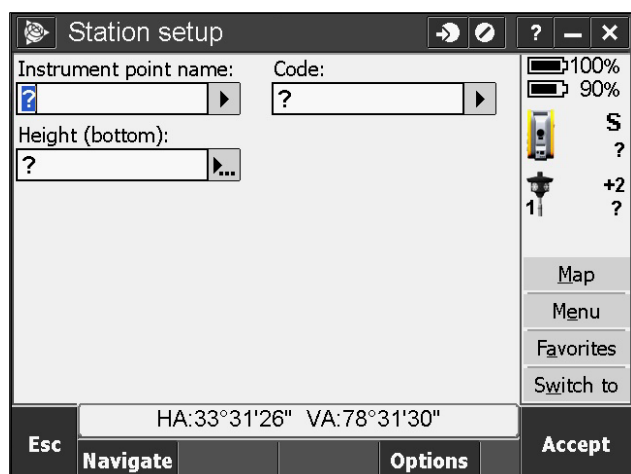

Figure 11. Station setup screen.
- e. Select instrument point name from list or copied from previous job (Step 2; Figure 11)